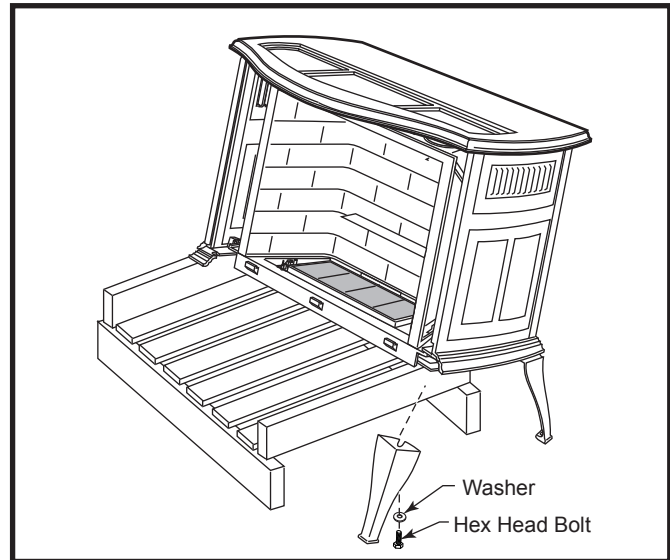

Fig. 13 Carefully tip stove onto back legs. Leave pallet under stove to keep stove from falling fully forward.
3. Carefully tip the stove onto its rear legs. Adjust the pallet to allow access to one of the front leg holes. Be sure to leave the pallet under the stove to prevent the stove from falling fully forward. (Fig. 13) **CAUTION:** To prevent valve tubing from being crushed or damaged, make sure to rest valve on wooden pallet.